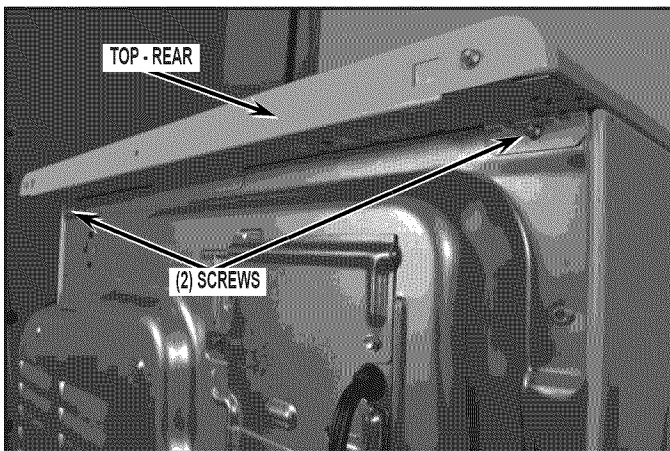

FIGURE 1
2. Remove dryer top by first removing the two (2) screws from the rear of the dryer. See *Figure 1*.